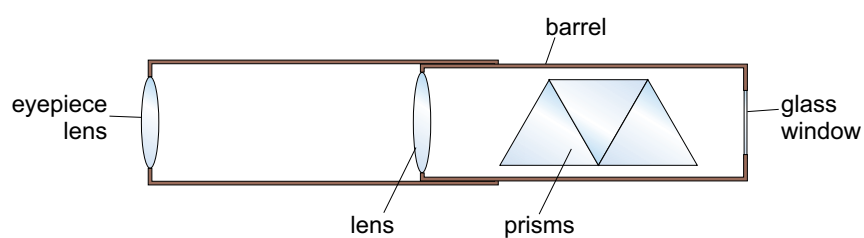

Figure 11 Main components of the hand spectroscope.
6. Use the hand spectroscope provided to separate the constituent colours present in the light and look at the emission line spectrum of the flames. Note down the description of spectra in your copy of Table 2. The hand spectroscope is a simple piece of equipment that houses a prism system in order to provide spectra from visible light (Figure 11).